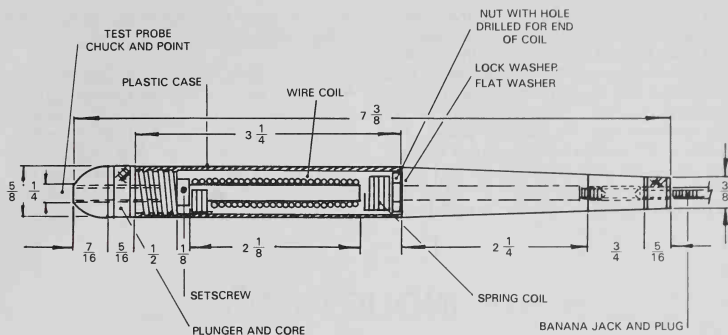

Fig. 18-24. Schematic showing construction of a practical electrical pencil.
- the handle for convenient connection to lead running to the battery, Fig. 18-24.